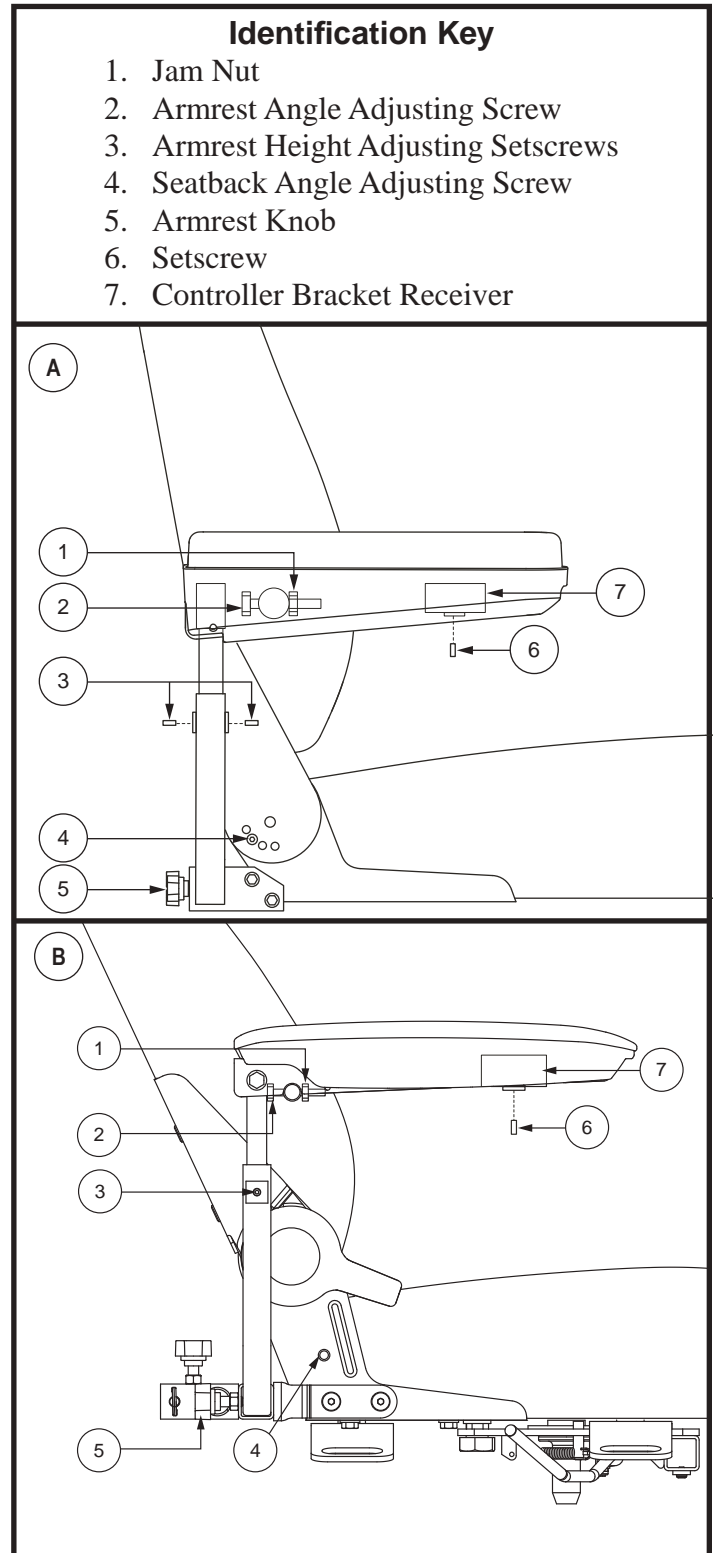

Figure 14. Armrest and Seatback Adjustments
NOTE: The most common configuration of the seat adjustment hardware is shown in figure 14. Your product may be equipped with a different configuration. All configurations operate in a similar manner.
1. Remove the adjusting screws from each seat hinge. See figure 14.
1. Locate the adjustment hardware on each side of the armrest receiver bracket. See figure 14.
2. Loosen the jam nut. **See figure 14.**
5. Loosen the setscrews on the armrest. **See figure 14.**
3. Loosen the setscrew on the controller bracket. **See figure 14.**
5. Loosen the setscrew on the underside of each armrest. **See figure 14.**